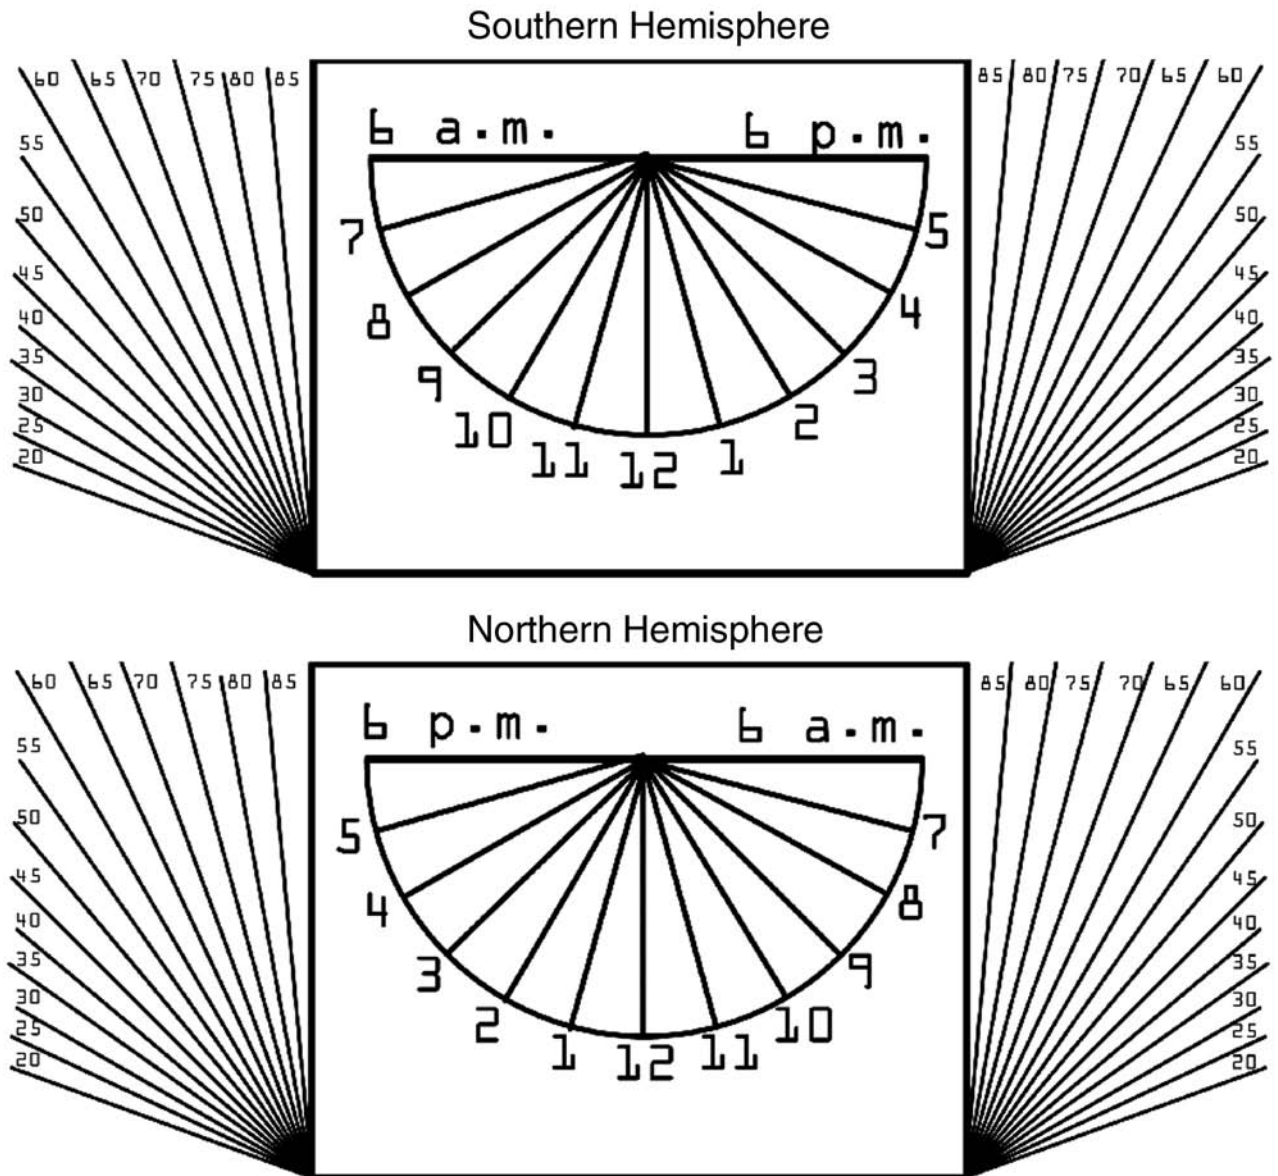

Figure 3-5 *Template for our "solar-powered clock."*
- Photocopy of Figure 3-5
This is a dead-easy and quick sundial for you to build. Take a photocopy of Figure 3-5. If you want